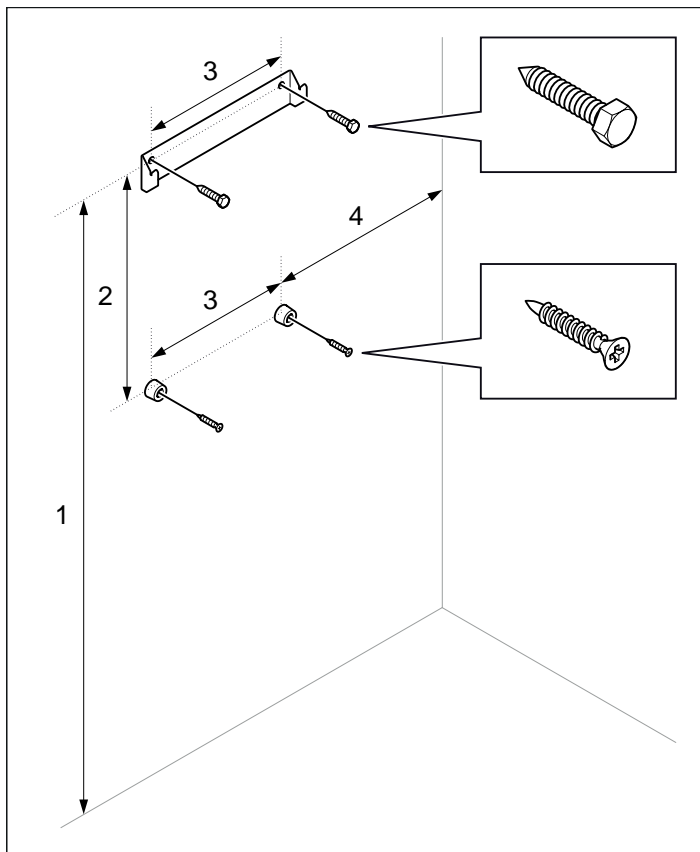

Figure 9: Bracket with screws and spacers
1. Attach the bracket and spacers to the wall following the specified dimensioning (see Figure 9). -